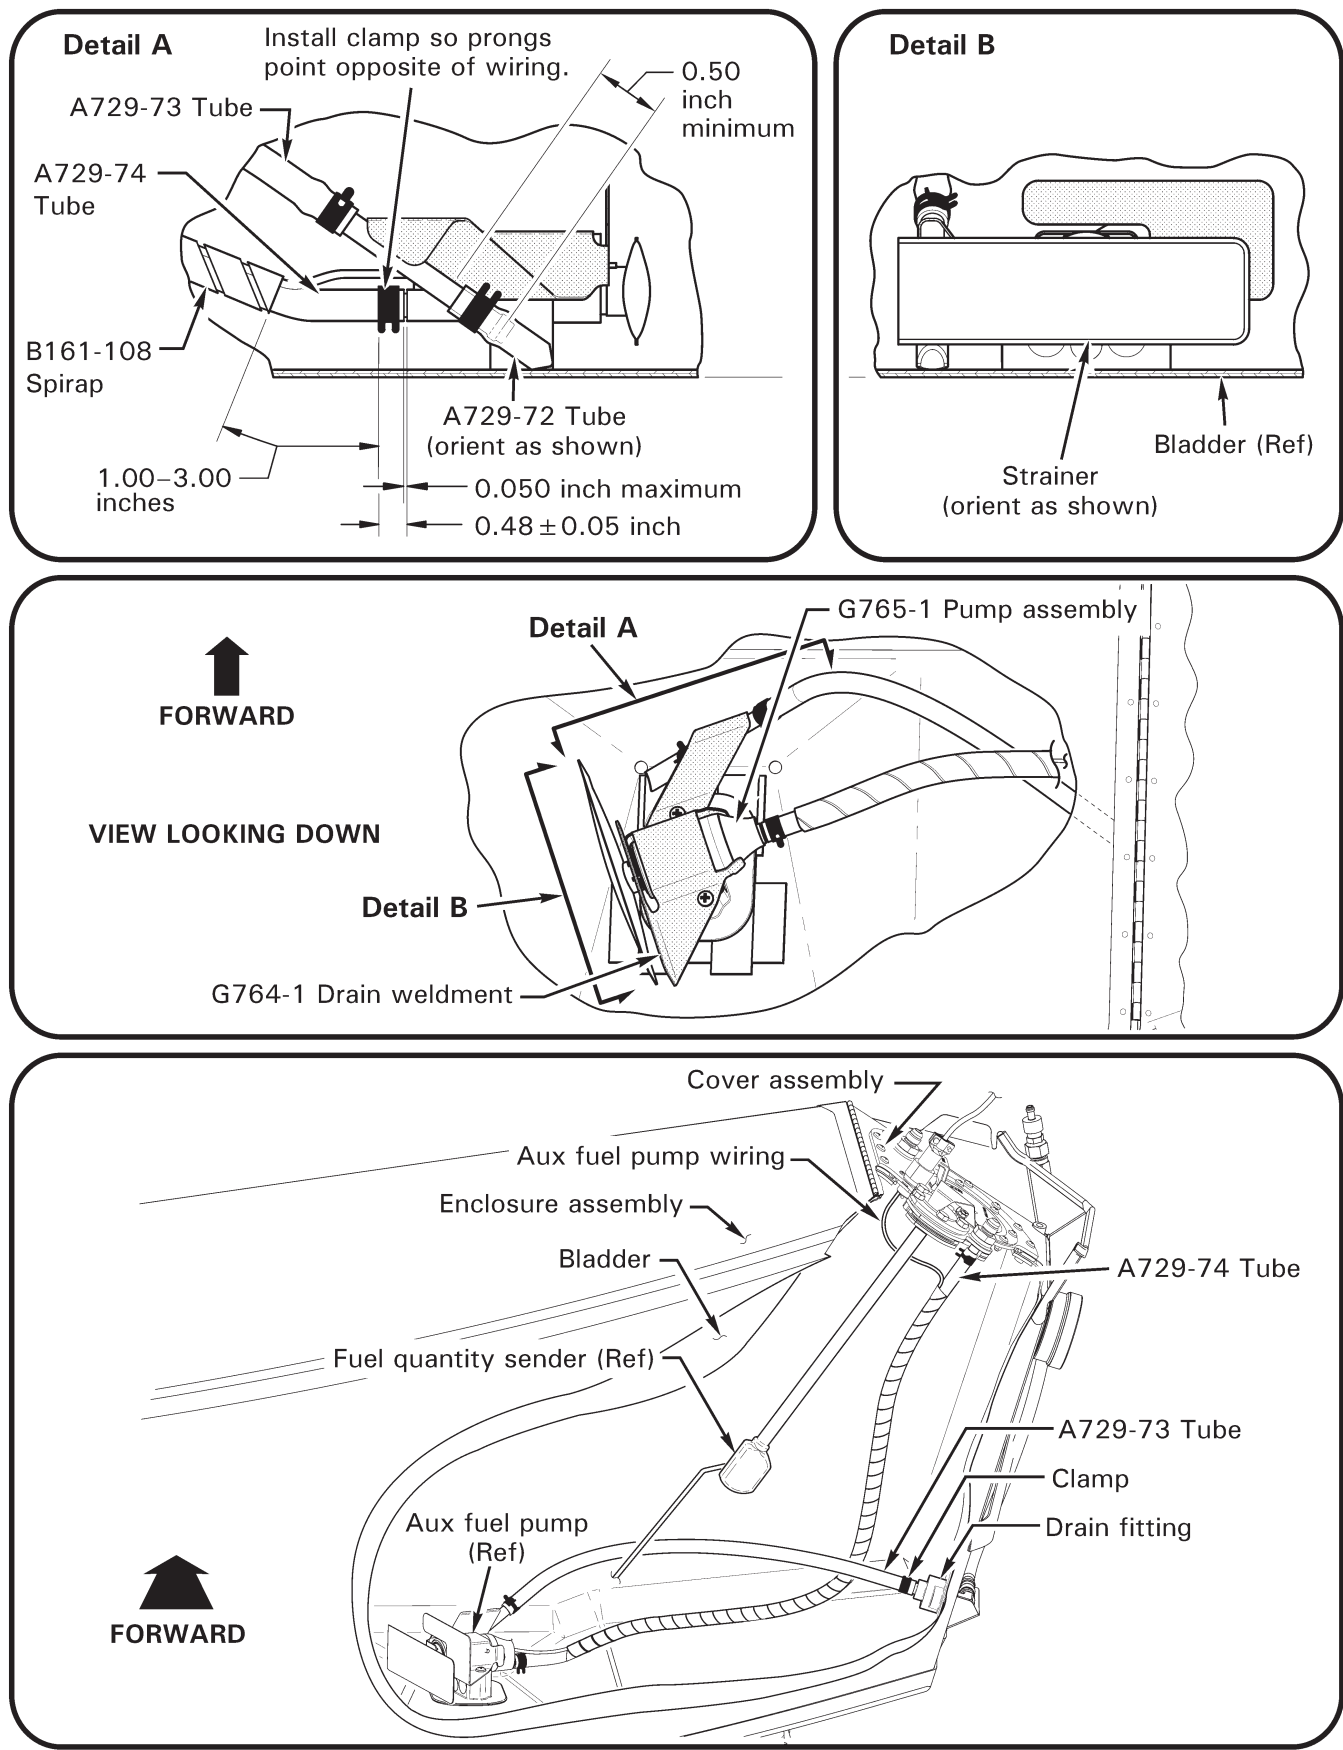

FIGURE 28-7 FUEL PUMP
5. Refer to Figure 28-7. Remove screws securing G759-1 cover assembly and G756 bladder to G754 enclosure assembly. Lift cover and inside bladder, release clamp securing A729-73 tube to drain fitting. Inside bladder, remove screws securing G764-1 drain weldment and G765-1 pump assembly to bladder. Remove weldment, pump, and tubes with connected cover assembly. Tape opening to prevent contamination of bladder interior.
3. Refer to Figure 28-7. Position G764-1 drain weldment with attached tubes (without pump) in bladder and temporarily secure with screws. Verify with flashlight and mirror bottom end of A729-72 tube contacts bladder as shown. Adjust tube and repeat step as required. Remove weldment with attached tubes.